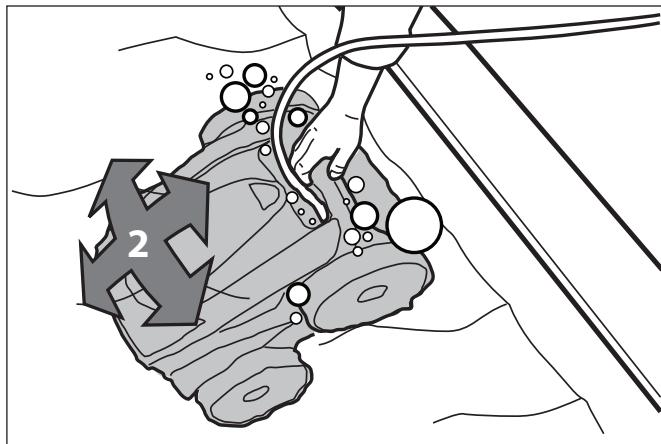

Figure 13. Cleaner Sinking to the Bottom of the Pool
2. Ensure the unit sinks to the bottom of the pool and does not float (Figure 13).